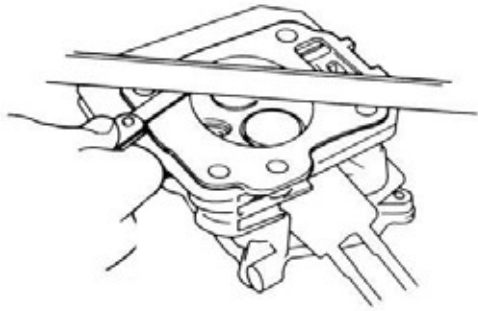

Figure 4-17: Check Cylinder Head for Warping
2. See Figure 4-17. Rotate the reamer clockwise through the valve guide for the full length of the reamer.